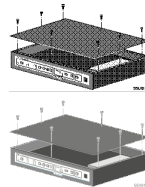

Figure 1. Remove the Top Cover
2. Remove the eight phillips screws securing the top cover of the System Unit. Position the unit so that the back panel faces you and remove the cover. See Figure 1.